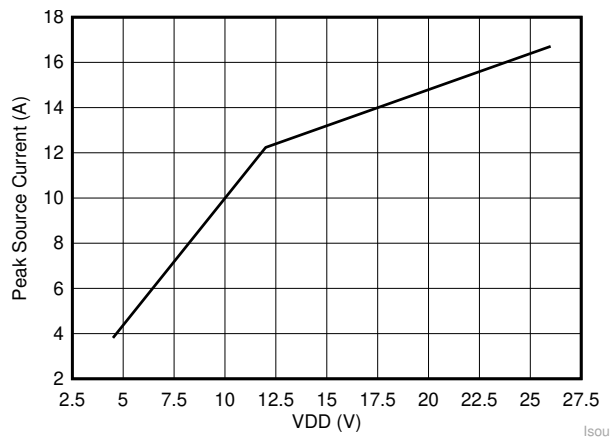

图 6-4. Peak Source Current vs VDD
- (1) Operation outside the Absolute Maximum Ratings may cause permanent device damage. Absolute Maximum Ratings do not imply functional operation of the device at these or any other conditions beyond those listed under Recommended Operating Conditions. If outside the Recommended Operating Conditions but within the Absolute Maximum Ratings, the device may not be fully functional, and this may affect device reliability, functionality, performance, and shorten the device lifetime.
- (2) All voltages are with respect to GND unless otherwise noted. Currents are positive into, negative out of the specified terminal. See Figure 6.4 of the data sheet for thermal limitations and considerations of packages.
- (3) These devices are sensitive to electrostatic discharge; follow proper device handling procedures.